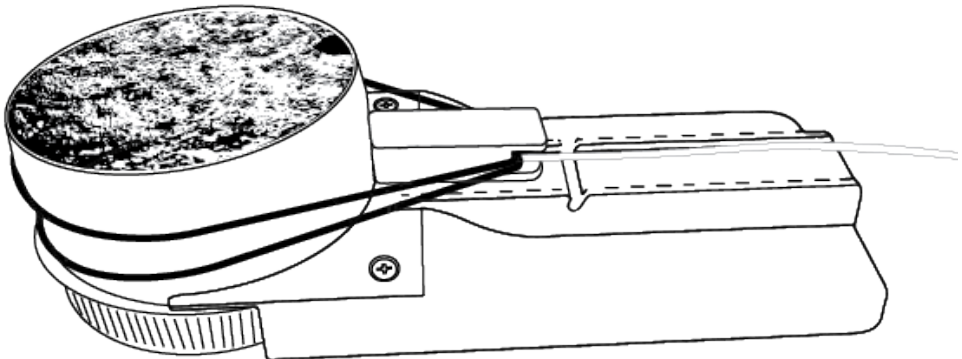

Figure 11 Sensor secured to sample ring on installation tool
11. Secure the sensor in place by positioning the retaining ring in the lower notch of the sensor hull (Figure 11).
12. Use a second retaining ring to secure the sensor by placing the retaining ring around the sample ring and positioning it in the upper notch of the sensor hull (Figure 11).